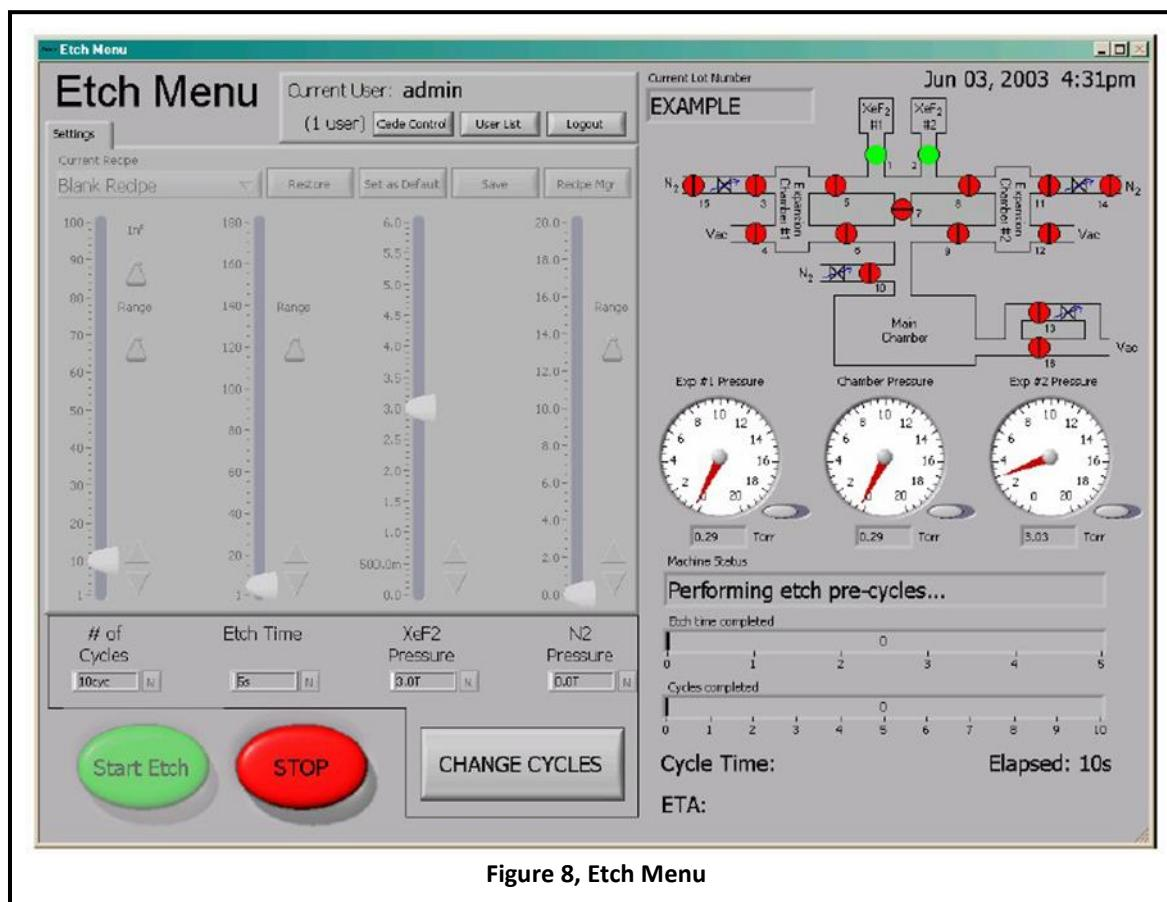

Figure 8, Etch Menu
7.3.1 Select a recipe from the drop down menu, labeled "current recipe" at top left of the screen. See *figure 8*). See *Table 1, Recipe Parameters*.
7.3.2.1 Change the number of cycles on the Etch Menu to increase/decrease total etch time. See *Figure 8, Etch Menu*.